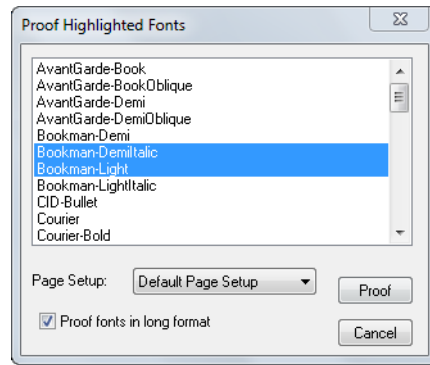

Figure 3.3 Proof Highlighted Fonts dialog box
1. From the **Fonts** menu, choose **Proof Fonts**. A window appears with a list of the available fonts, which the Harlequin MultiRIP can use with any of its possible output devices. (See Figure 3.3.)